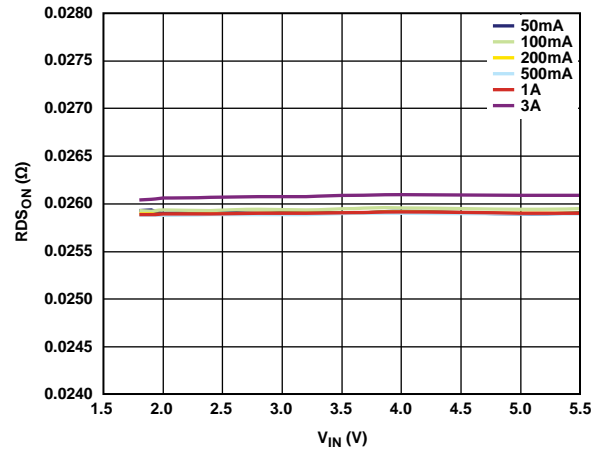
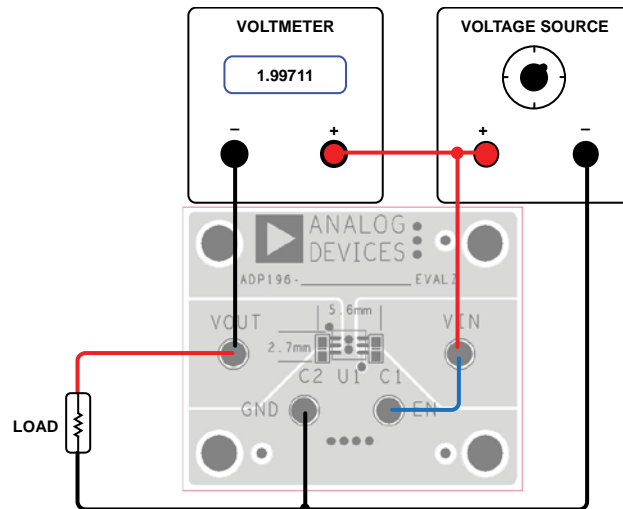

Figure 3. RDS(ON) vs. Input Voltage, VIN
Figure 4. RDS(ON) Measurement Configuration
RDS(ON) can be measured using the configuration shown in Figure 4. For more accurate measurements, a second voltmeter can be used to monitor the input voltage across the input capacitor. The input supply voltage may need to be adjusted to account for IR drops, especially if large load currents are used. Figure 3 shows a typical curve of RDS(ON) measurements with different load currents.